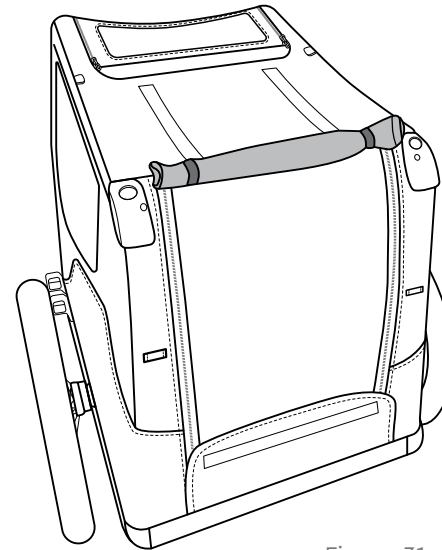

Figure 31
3. The rear trailer door cover can be rolled and secured by inserting the hanging hooks in the reflective loops at location ③ (Figure 31).